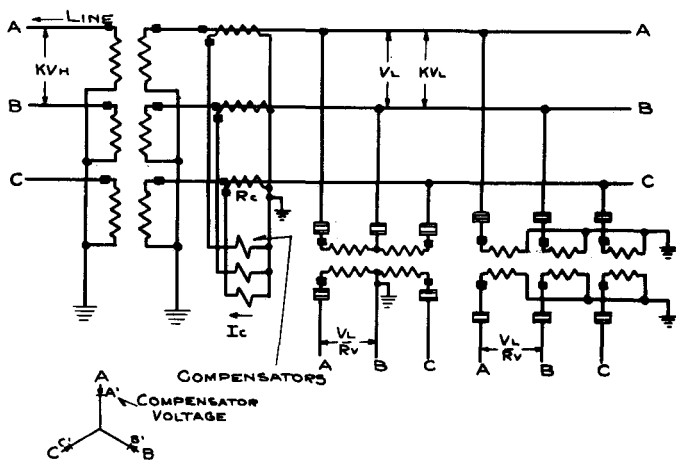

Figure 4
In this case the compensators are connected in star to star-connected low voltage current transformers as shown in figure 4. Then the compensator current is,
By definition the percent impedance of the power transformer is the percent voltage drop across the bank at unit current. As shown in the vector diagram of figure 4 the compensating voltage is in phase with a star current. Therefore the voltage drop across the bank at unit current (in this case I_C) in terms of the star relay voltage is,
(Similar to figure 4 except compensator current transformers on high voltage side of bank.) This is the same as the case above except equation (1) is in terms of KV_H instead of KV_L . Therefore for star-star connected power transformers with star connected compensators on the high voltage side, the following formula applies:
It should be noted that with the current transformers connected outside the delta, single phase-to-ground faults will give incorrect line-to-ground voltage due to the circulating current in the delta which does not pass thru the current transformers. This is not important in applying relays for phase fault protection. The voltage appearing across the terminals L and T of the compensators is proportional to the difference between two equivalent power transformer currents. The delta voltage AB is obtained from the voltages of the two transformers A and B, and it must be compensated by the drop in each of the two transformers. The star-delta auxiliary potential transformers provide voltages corresponding to the high tension voltages in phase position, but uncompensated in magnitude. Current A" feeding the A compensator is related to IA - IC and current B" feeding B compensator is related to IB - IA. The compensators add the two voltages appearing across their terminals. Since the voltage path from A' to B' traverses the L and T terminals of the two compensators in opposite directions, the total compensated voltage is proportional to 3 Z IA if IA + IB + IC is equal to zero. If IA + IB + IC is not equal to zero, there is a circulating current in the delta which will cause equal and opposite drops in transformers A and B so the delta voltage is still correctly compensated. Combining these compensator voltages with the low tension star voltages as shown, gives the compensated delta voltages for the relays. Thus, the compensated relay voltages from the vector diagrams are EA'C, EC'B, or EB'A. This method of compensation should be used only when delta relay voltages are required as the voltages A', B', or C' to ground are not the true phase-to-ground compensated voltages as they are in figures 4 and 6.
A. Star (H) - Star (L) - Delta (T) Bank. Current transformers on high (H) and low (L) tension windings:
Two sets of compensators are required in line with equation (14). The setting for the compensators using the low tension current transformers is the same as equation 6 except Z is Z_L and for the compensators using high tension current is the same as equation 7 except Z is Z_H . The two compensator voltages are shown in figure 8b. The schematic connections can be easily derived from figure 4.
B. Star(H)-Star(L)-Delta(T) Bank. Current transformers on low (L), winding and inside the delta tertiary (T) windings:
Two sets of compensators are required in line with equation (15). The two compensator voltages are shown in the vector diagram of figure 8b. The schematic connections can be derived easily from figures 4 and 6. The setting for the compensators using the low tension current transformers is the same as equation 6 except Z is $Z_L + Z_H$. The setting for the compensators using the tertiary current transformers connected inside the delta is as follows: The compensator current is: